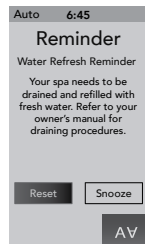

Figure 15.0f
22. **Water Refresh Reminder:** This message will appear when the “Water Refresh” timer has expired (Figure 15.0f). The water needs to be drained and refilled with fresh water.